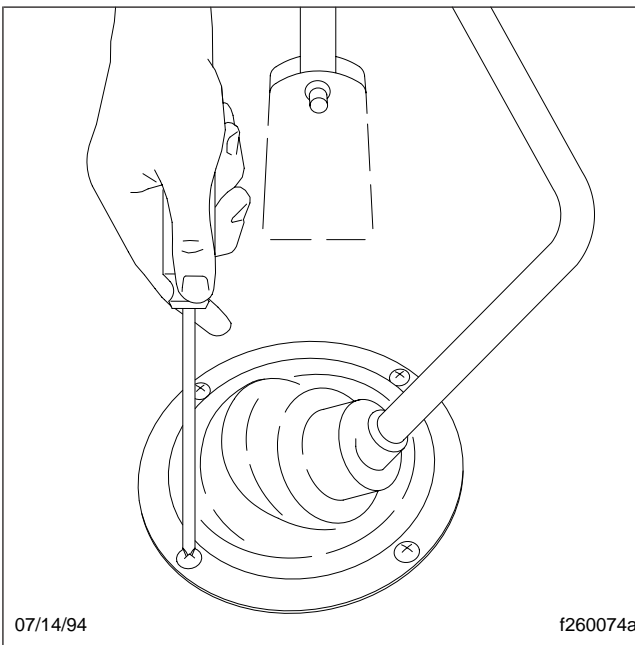

Fig. 5, Shift Lever and Boot
- 4.2 Remove the four screws from the retaining ring around the shift lever boot. See Fig. 5. Remove the ring and the boot.
- 8.6 Install the rubber boot and the metal retaining ring. Install the four screws and tighten against the cab floor 28 lbf·ft (38 N·m). See **Fig. 5**.